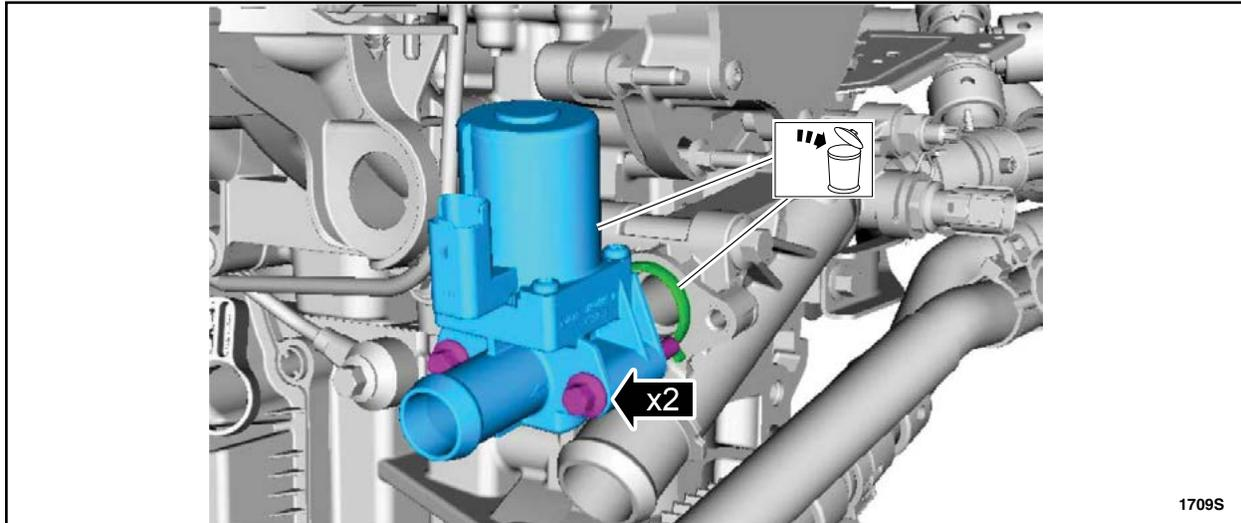

**FIGURE H2**
3. Release the clamp and disconnect the coolant hose. Discard the clamp. See Figure H2.